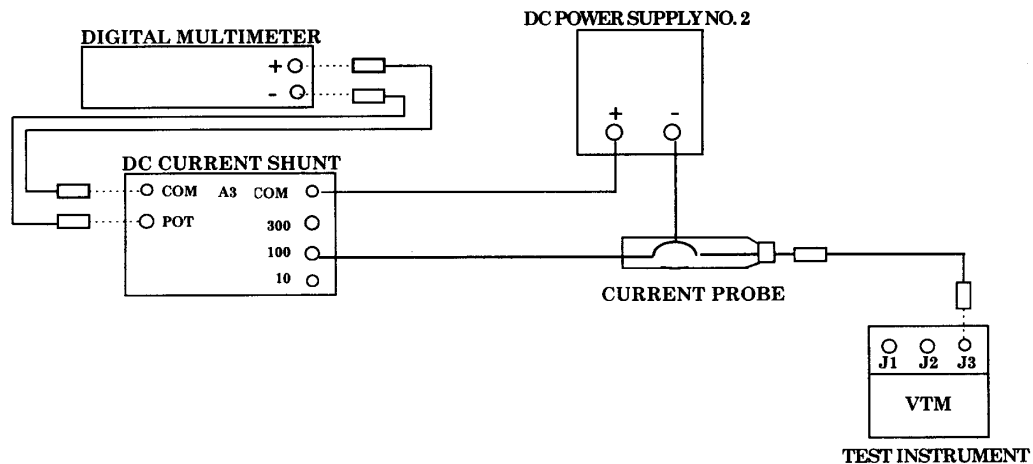

Figure 1. VTM dc current (low) - equipment setup.
- (1) Connect equipment as shown in figure 1.